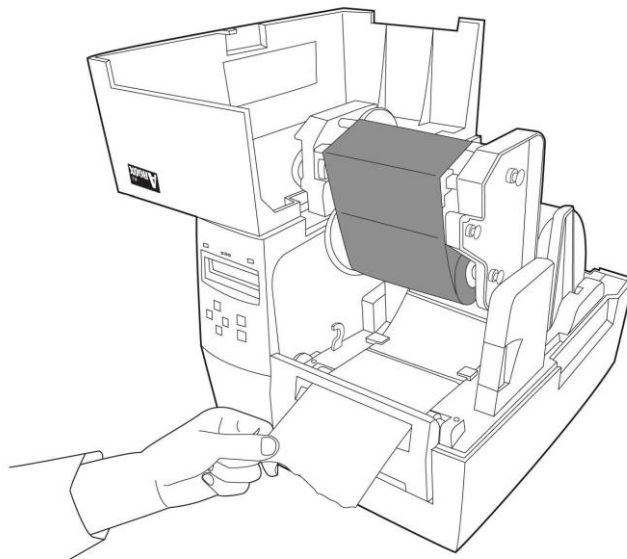

Figure 12
6. Lead the media over the platen roller. (Figure 12)